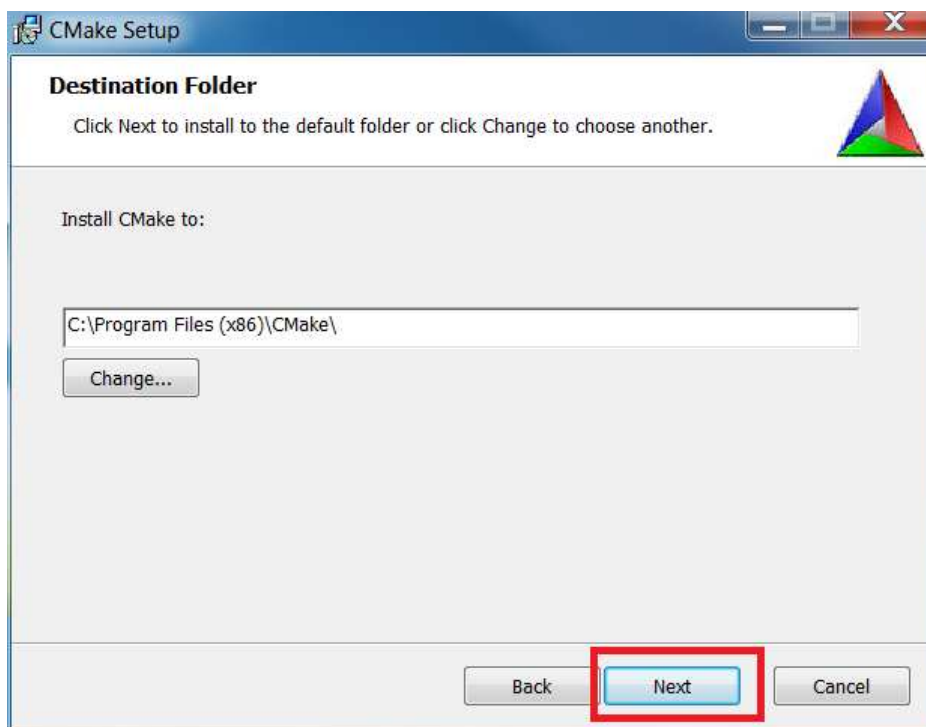

Figure 18. CMake Destination Folder
4. Choose a destination folder for CMake, click “Next” as shown in Figure 18.